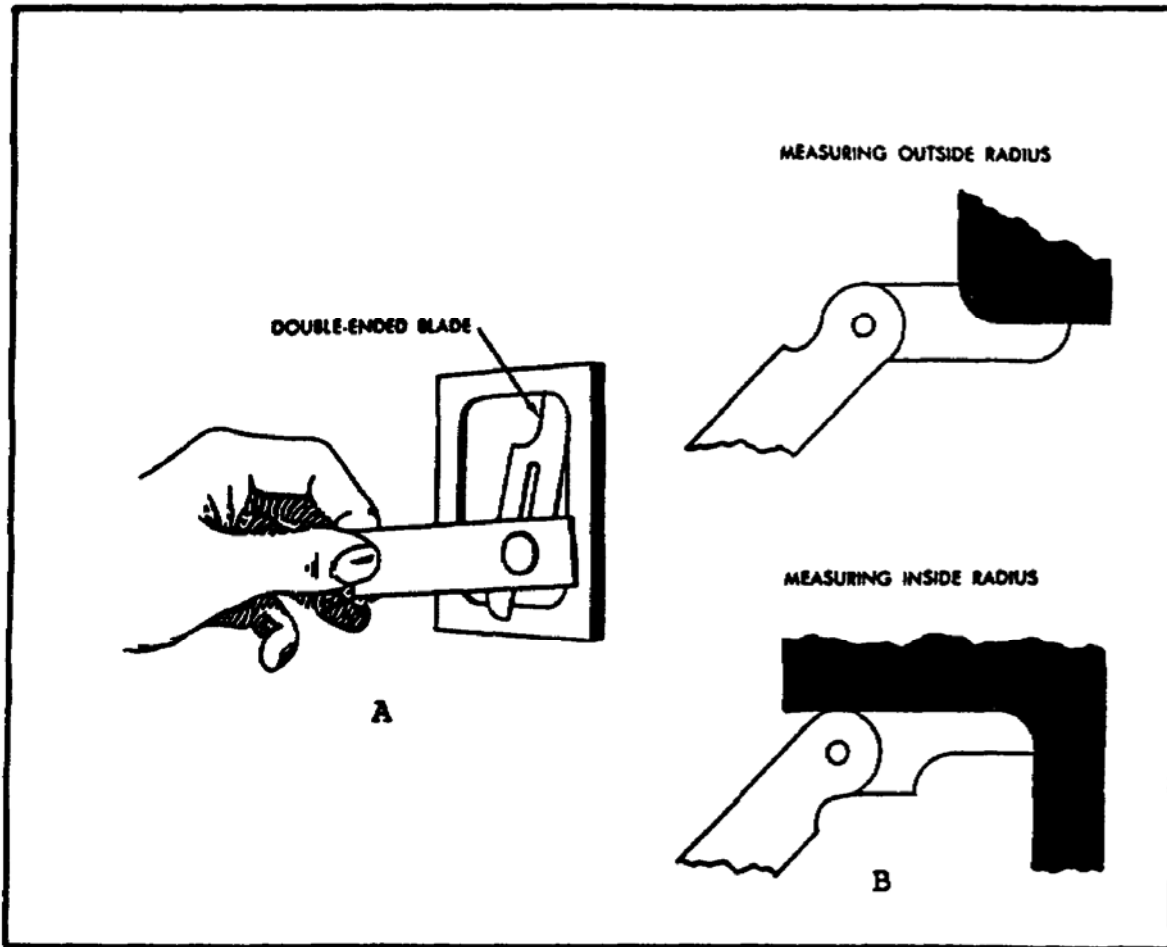

FIGURE 212. USING FILLET AND RADIUS GAGES.
o. *Use of Fillet and Radius Gages.* A double-ended radius blade being used to check the inside corner or fillet of a machined part is shown in figure 212, view A. Each blade can be locked in position by tightening the clamp. These gages can be used in any position and at any angle for both inside and outside radii (figure 212, view B).